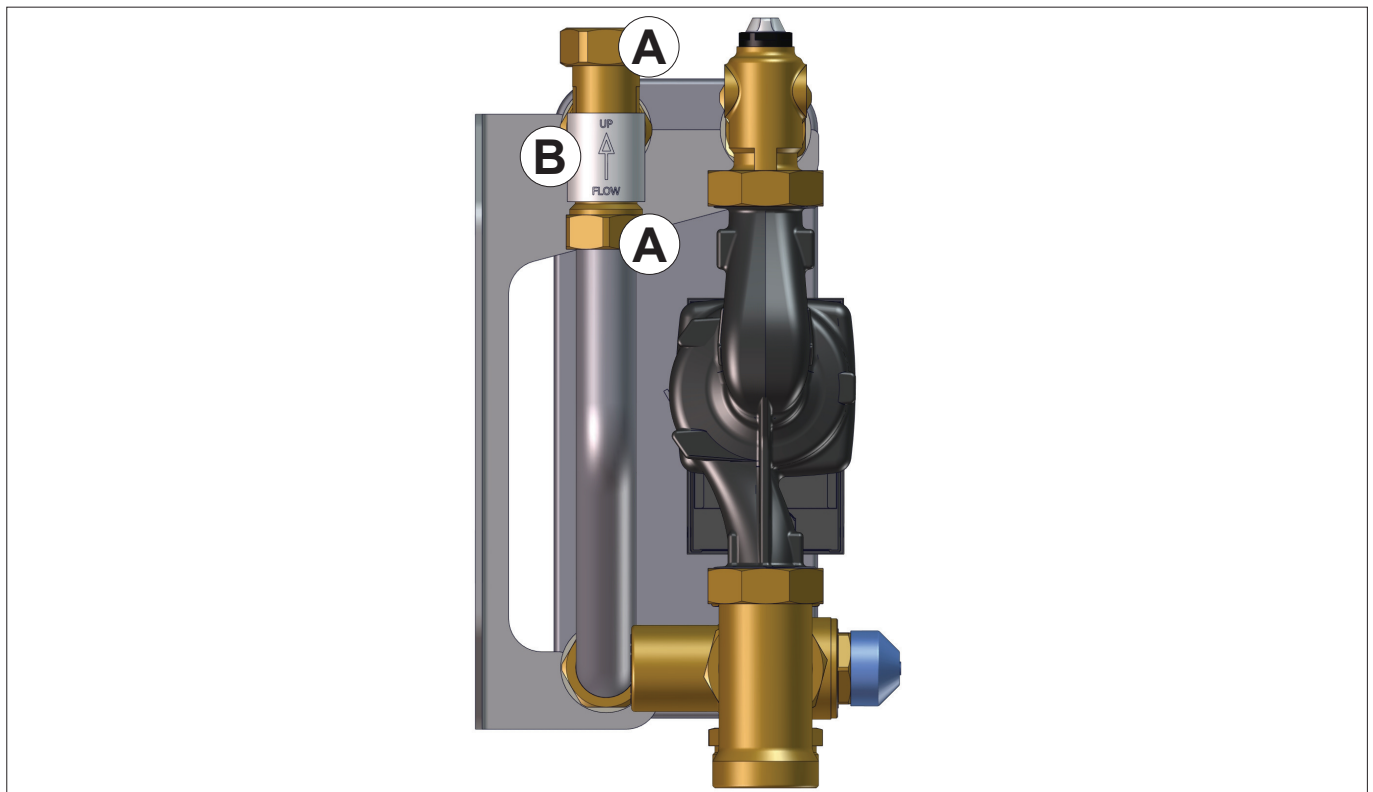

Fig. 9: Removing the flow switch
2. Tighten the nuts (item A, Fig. 9 on page 18) (for tightening torques, see “Technical data” on page 20).